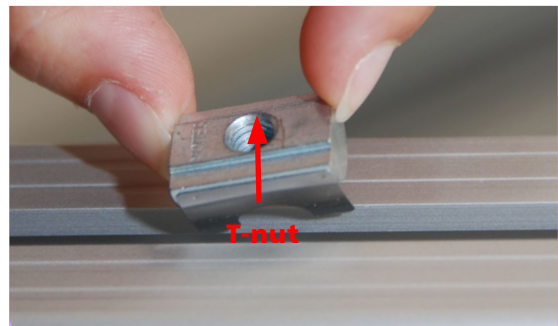

fig. 3.2-7
Step ⑥ In order to attach the profile angles **A2e**, you will need sixteen (16) fillister head screws with flange **M6x14** (2 per angle) and sixteen (16) T-nuts **M6**. Measure the long frame profile **A2c** which you have just mounted to the shield. There are **930 mm | 36.61 inch** from to inner edge of the side supports to the middle of the screws the profile angles will be screwed on with. Now place two (2) T-nuts in the lateral lead channel of the long frame profile (the shield just clicked into the lead channel at the other side of the frame profile). Insert the T-nuts by half-twisting them into the lead channels with the swivel ball ahead and align them appropriately (**fig. 3.2-7**).